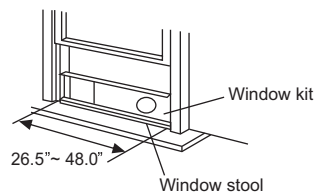

Fig. 10
3. Cut the foam seal(adhesive type) to the proper length and attach it on the top of the window. Shown as in Fig.10.